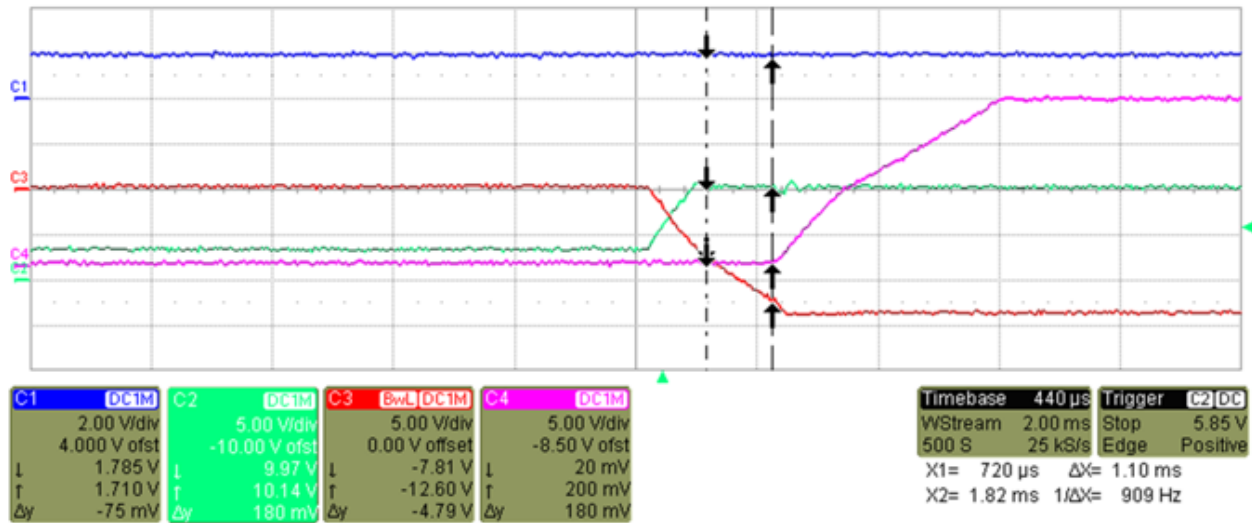

図 15. DMD Start-Up Power Sequencing
- 図 15 shows the power supply power up.